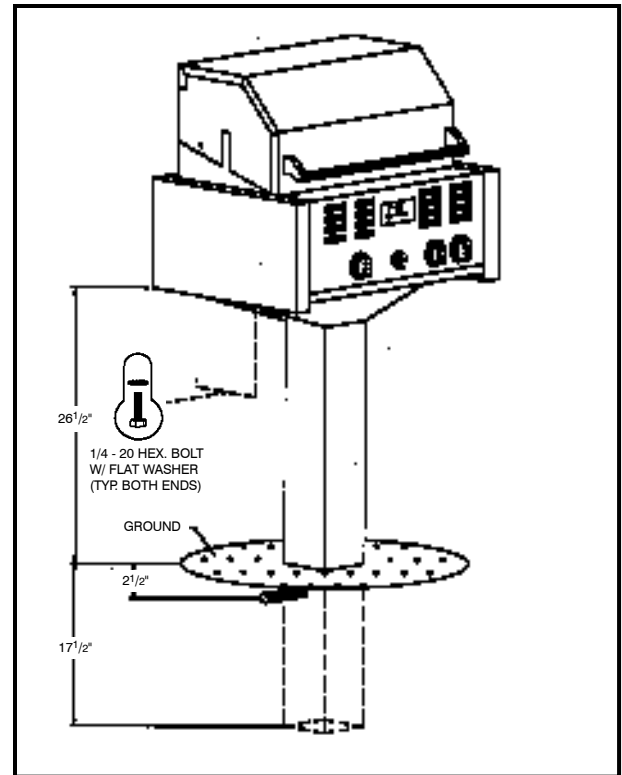

Figure 4. In-ground Post (Sterling II Only)
The Post Base (Sterling II only) is designed to be installed in a bed of concrete to a depth of 17 1/2". The height of the grill cooking surface should be roughly 38 1/2" from the ground. (See Figure 4 & 5.) The line gas connection is located on the left side of the post. The gas connection is SAE 45° female flare.
2. Fasten the Housing to the Base with the supplied hardware. (Hardware needed: Four (4) each $1/4 - 20 \times 1/2$ L hex head bolts and flat washers.) (See Figures 4 & 5.)